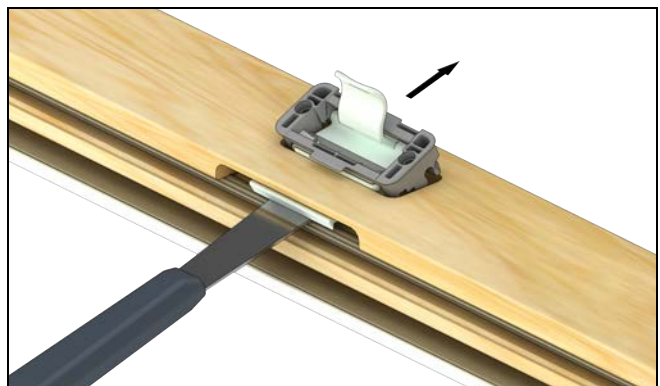

Figure 100
4. Place a putty knife between weather strip and latch. Gently pull Lift Lock at slight angle out of sash route. See Figure 100.